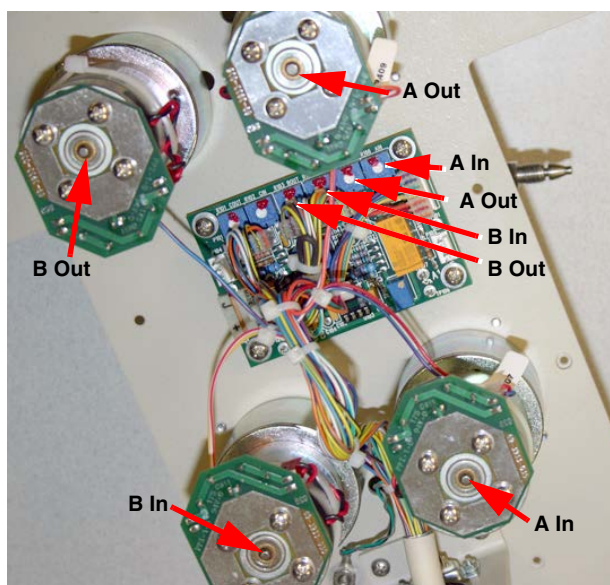

Figure 9-19 Electric valve motor adjustment
6. On the electric valve assembly CBA, adjust the corresponding potentiometer to the voltage printed on the side of the motor (refer to Figure 9-19).